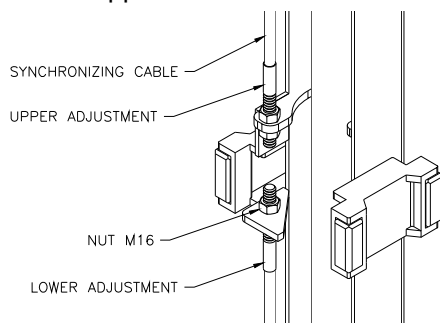

Fig. 5 – Synchronizing Cables
- 16) Attach one end of synchronizing cable to carriage. See **Fig. 5** for proper attachment.
- 17) Route cable up and over sheave in overhead. Follow across to other sheave on opposite column. Route down through carriage to sheave in bottom of column. Route under sheave and up to cable attachment. Use **Fig. 5** for proper attachment.